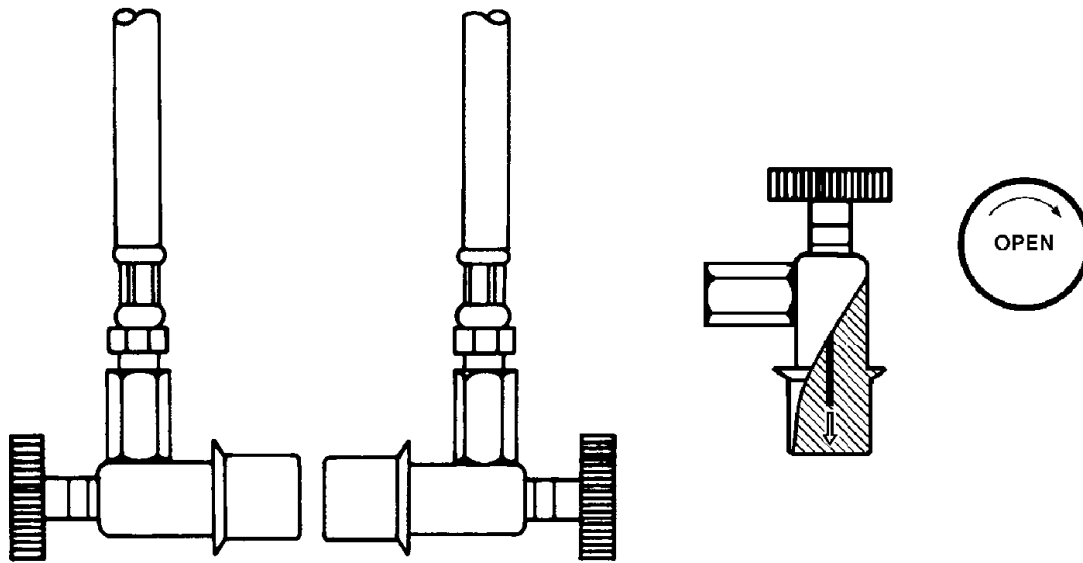

Figure 40 Quick Connect Fittings
IMPORTANT – The fittings on the service hoses for R-134a air conditioning systems are standard Metric SAE quick connect fittings (Figure 40) that will work only on R-134a air conditioning system service ports.
Once the quick connect fittings are attached to the service ports, turning the knob **clockwise** (CW) pushes an internal pin down **to open** the service port valve (refer to Figure 40). Turning the knob CCW raises the pin, closing the service port valve. Once closed the quick-disconnect fitting can be removed without venting refrigerant from the system.